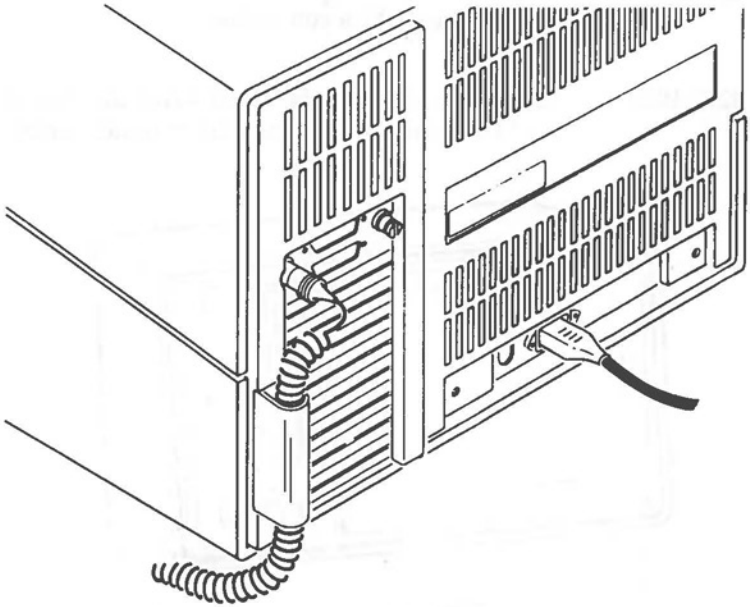

Figure 2-4 Power Cord Connection
2. Plug the power cord into the computer at the rear (see Figure 2-4).